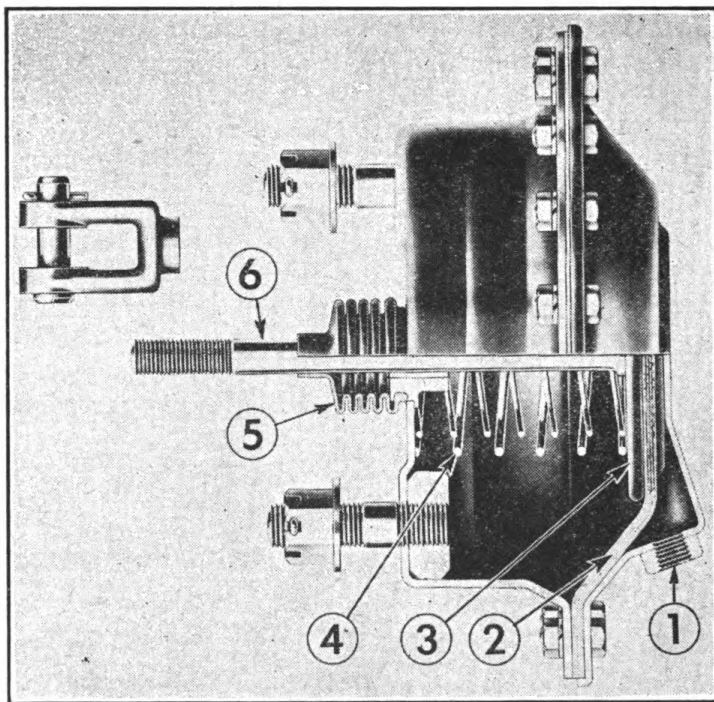

FIGURE 32. BRAKE CHAMBER—SECTIONAL VIEW.
12. BRAKE CHAMBERS (Fig. 32).—*a.* This unit is equipped with four brake chambers. They are all interchangeable.
b. Function.—The function of the brake chamber is to convert the energy of compressed air into the mechanical force necessary to expand the brake shoes against the brake drum and apply the brakes. Air pressure from relay emergency valve enters port (1) behind the flexible diaphragm (2). The force developed moves the flexible diaphragm, moves the push plate (3) and attached push rod (6), so as to rotate the brake cam and apply the brakes.
c. Adjustment.—(1) The stroke of the brake chamber push rod is limited, therefore, the brake must be adjusted (see Brake Minor Adjustment) to keep the push rod stroke within the correct limits. The stroke should never be permitted to exceed $1\frac{3}{4}$ " and when the brakes are adjusted, the stroke should be as short as possible without the brakes dragging. This minimum stroke is usually about $\frac{3}{4}$ ".